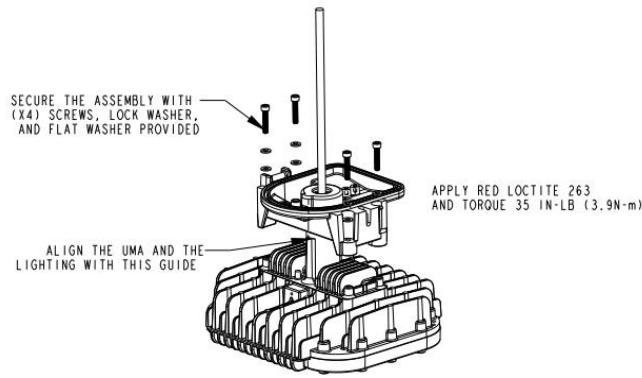

Figure 1: Install UMA on Area Light
2. Install UMA to the Area Light, use the provided hardware to complete the assembly. **See Figure 1.**
4. Install the screws in the position indicated in **Figure 1**, to tighten them use a torque wrench, not provided, and apply a torque of 35 In-Lb. (3.9 N-m).